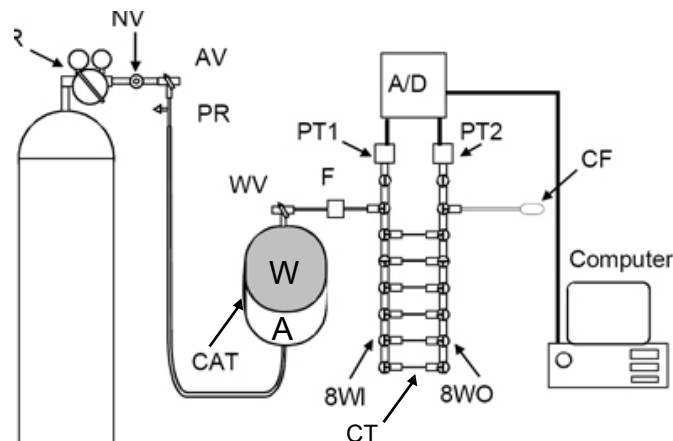

Figure 1
The HCFM is shown schematically in Figure 1. It is an apparatus designed to perfuse water into an object while rapidly changing the delivery pressure and simultaneously measuring flow. This is referred to as a transient conductance measurement. The slope of flow plotted versus pressure equals the hydraulic conductance of the object. The object can be an excised shoot or excised root system or capillary tube (for test purposes). The HCFM may also measure quasi-steady state conductance, i.e., under conditions where flow and applied pressure are approximately constant with time.
Pressurized water flows from the CAT to the 8-Way Inlet manifold (8WI) through a 9 mm Inside Diameter (ID) nylon-reinforced Tygon tubing. At a distance of 0.3 m from the CAT the water passes through a 0.1 micron water filter, then the diameter of the tubing is reduced to 3 mm Outside Diameter (OD) plastic tube; the plastic tubing is connected to the input side of the 8WI. The 8WI is shown schematically in Figure 1. The 8WI is an 8-Way HPLC valve of octagonal geometry with 8-tubes emerging from a common point in the center and each tube terminated by a valve.